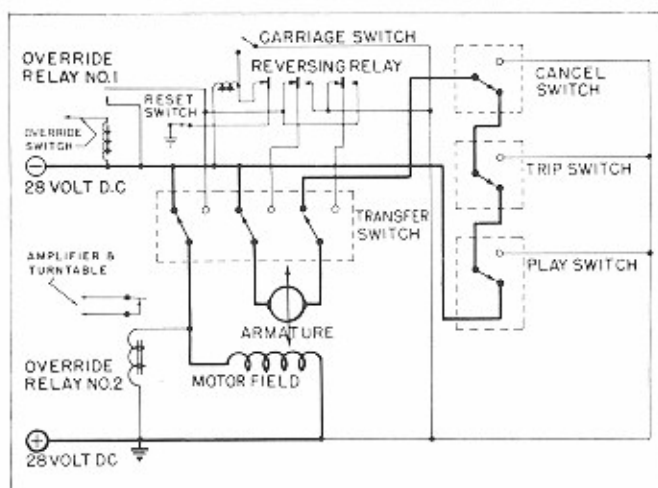

Fig. 50 PHASE 5 - PLAY SWITCH FUNCTION
e. Phase 5 -- Mute and Play Switches Actuate. (Fig. 50)
When the play switch operates, positive 28 volt D.C. is removed from one side of the armature of the record changer motor, and negative 28 volt D.C. is applied to that side, thus forming a direct shunt across the armature. This condition produces a strong resistance to rotation of the armature and is in effect a dynamic brake. The record changer accordingly is stopped quickly in the play position and held stationary during the playing cycle. See Fig. 50.
Figure 50 shows the active circuits in solid lines from both sides of the armature through the cancel switch, the trip switch, and the play switch forming a complete shunt as explained above. Negative 28 volt D.C. is still applied to one side of the motor field and positive 28 volt D.C. to the other side. Not shown in solid lines, over-ride relay No. 2 is still energized to maintain turntable, and amplifier